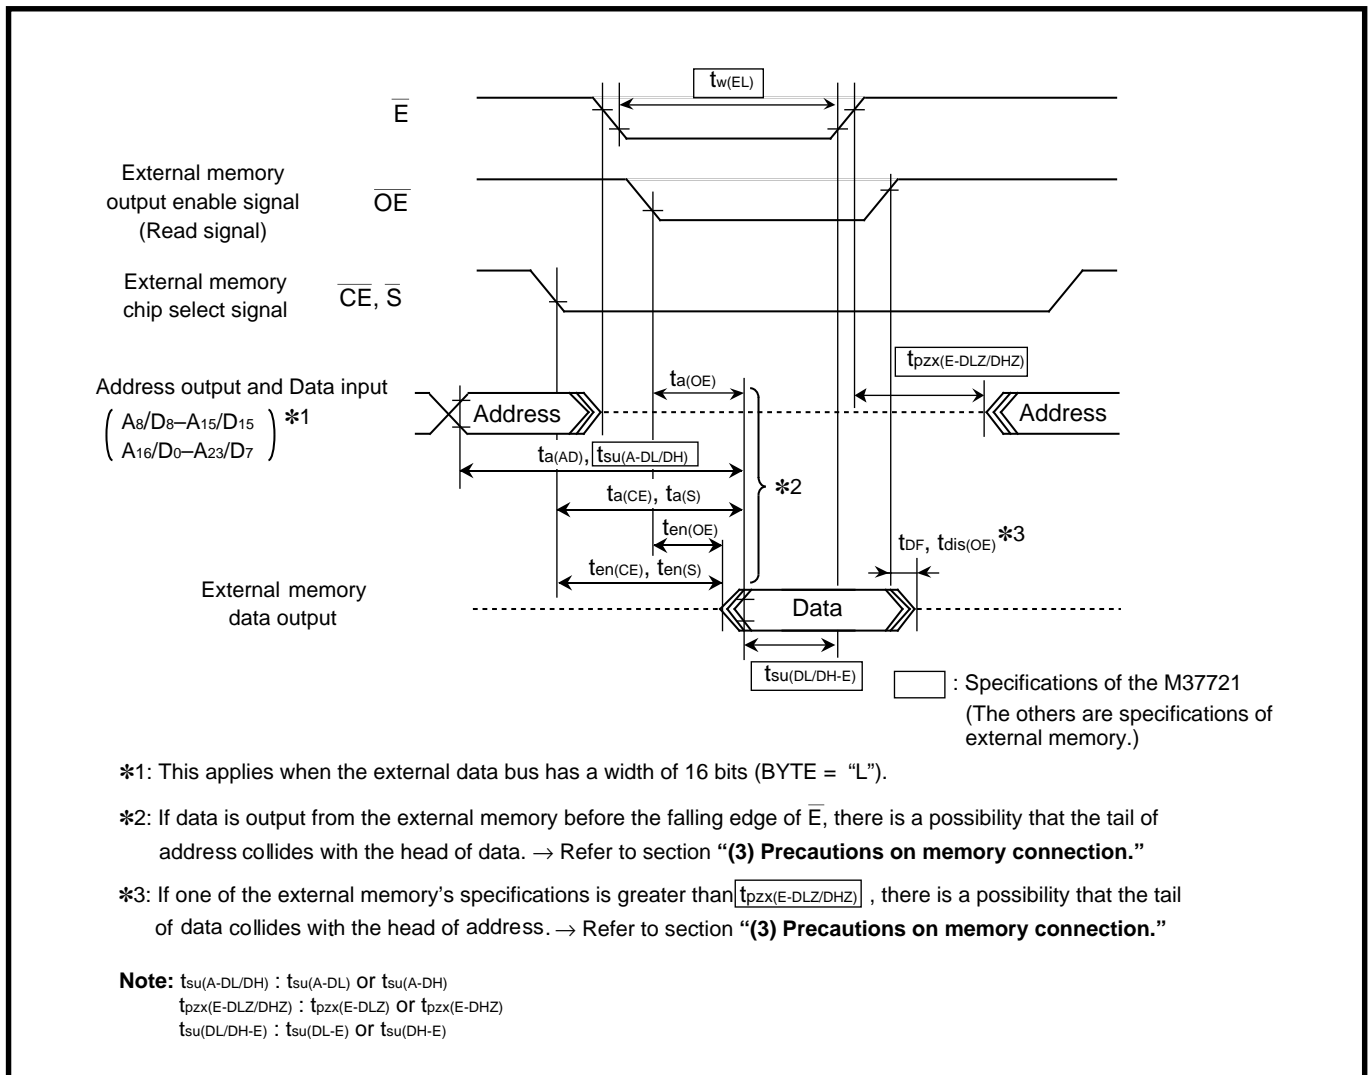

Fig. 16.1.1 Timing for reading data from flash memory and SRAM
Table 16.1.2 lists the calculation formulas and values for each parameter in Figure 16.1.1. Figure 16.1.2 shows the relationship between  $t_{su(A-DL/DH)}$  and  $f(X_{IN})$ .
**Table 16.1.2 Calculation formulas and Values for each parameter in Figure 16.1.1 (unit : ns)**